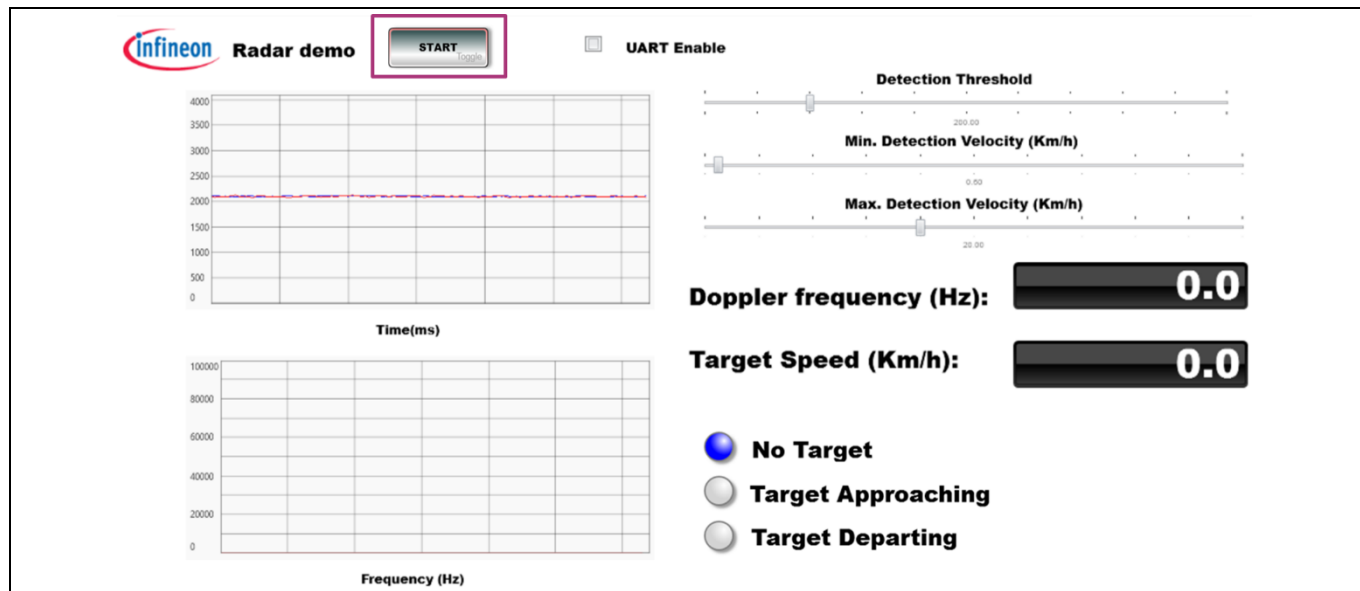

Figure 21 Start data collection
- The GUI interface in Figure 21 should appear. The size of the GUI is not adaptive and may require some adjustments to fit the screen.